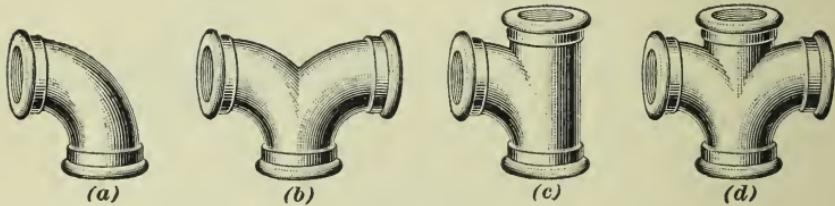

FIG. 22
**33.** **Long-turn fittings** are made similar to the standard steam fittings, but have a long bend, which allows an easy flow of the liquid. In Fig. 22 is shown a long-turn elbow in (a), a double-branch elbow in (b), a tee in (c), and